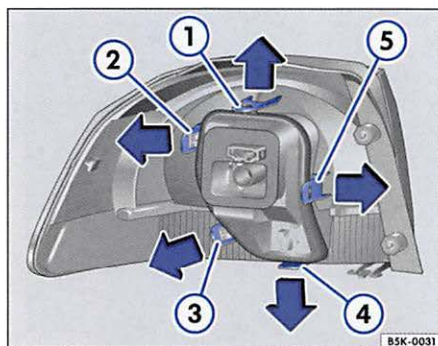

Fig. 198 Taillight in the body of the vehicle: Removing bulb holder. ① to ⑤: Locking lugs.
7. To unlock the bulb holder, press the locking lugs ⇒ fig. 198 ① to ⑤ in direction of the arrow.